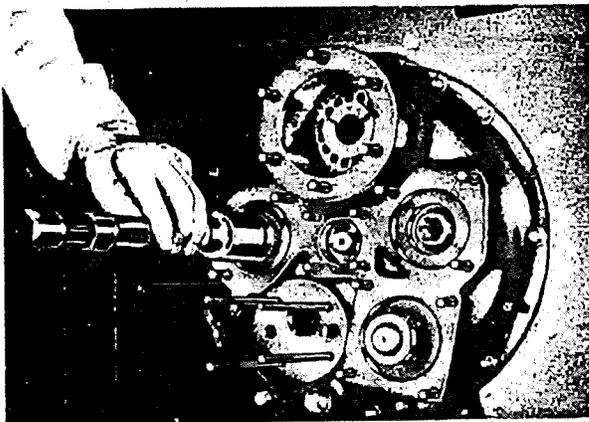

Figure 33 - Installing Generator and Magneto Drive Gear Oil Seals
c. Install the generator gear and magneto drive gear oil seals using Guide (Tool No. T-607-1) and Driver (Tool No. T-607-2), for each. Refer to Figure 33.